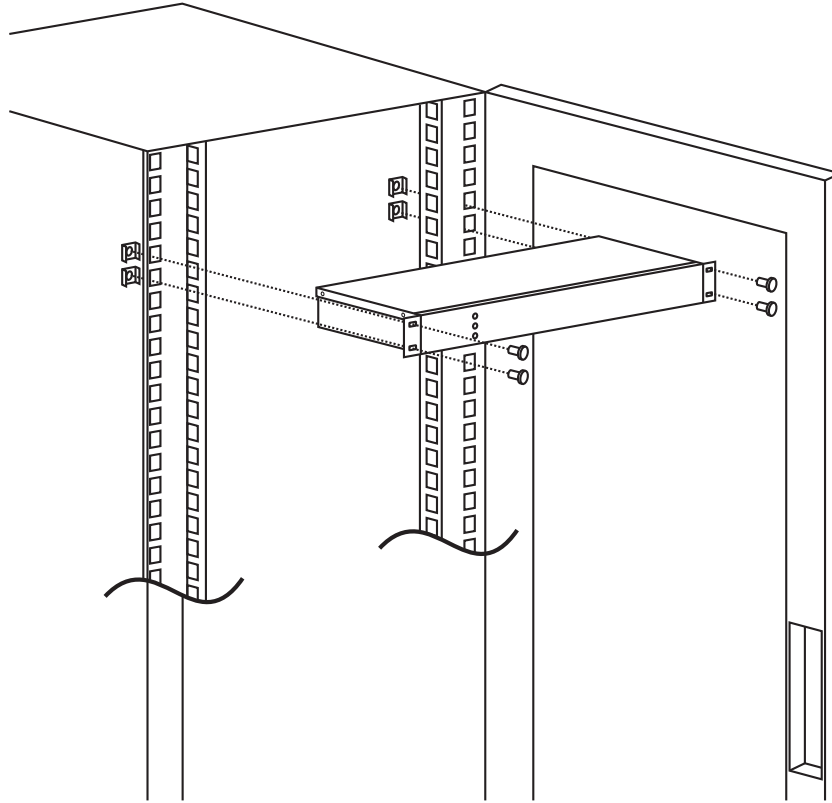

Figure 2. Access control unit mounted into a 19" cabinet.
- Mount the access control unit into a 19" cabinet as shown in Figure 2. We recommend that you mount the control unit near the top of the cabinet. However, this isn't required if enough space is not available.